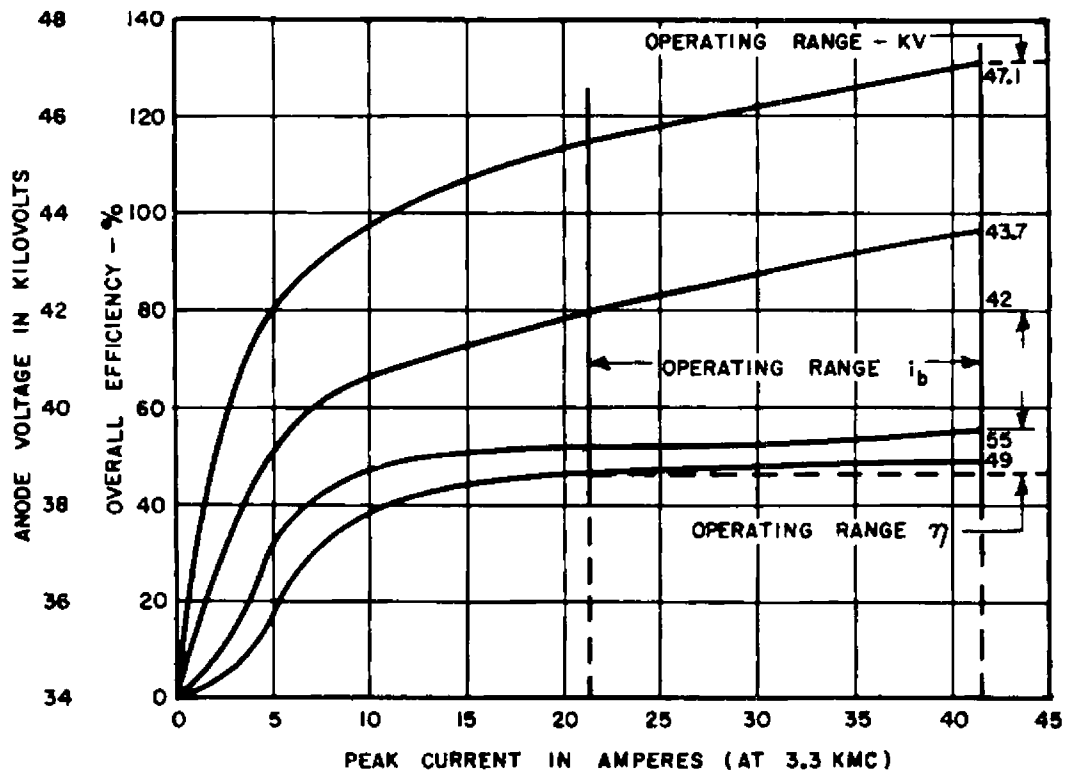

FIG. 5
- Figure 5 This is a plot of both applied peak anode voltage and overall operating efficiency versus peak anode current. The recommended operating range of voltage, current and efficiency are indicated as a guide within which satisfactory operation is expected. These data were taken at 3300 mc. The spread for lower frequencies will decrease and will increase for higher frequencies.